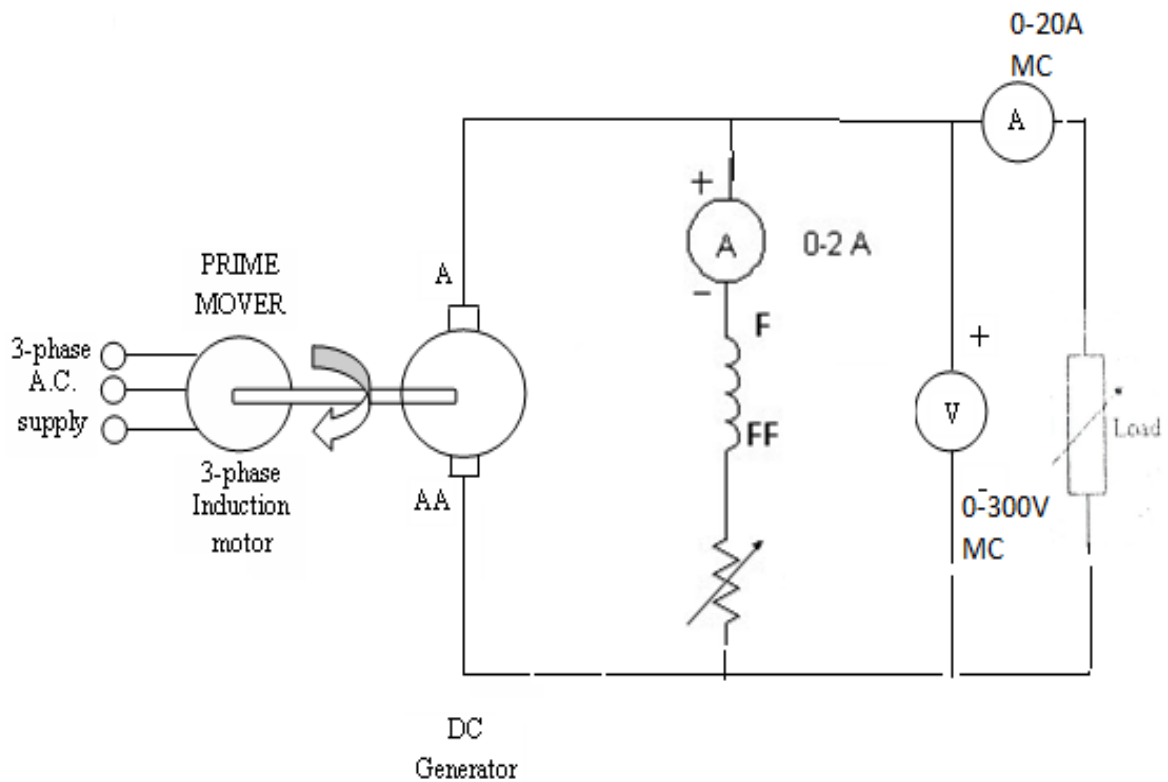

Figure-1
1. Complete the circuit as shown in Figure-1.